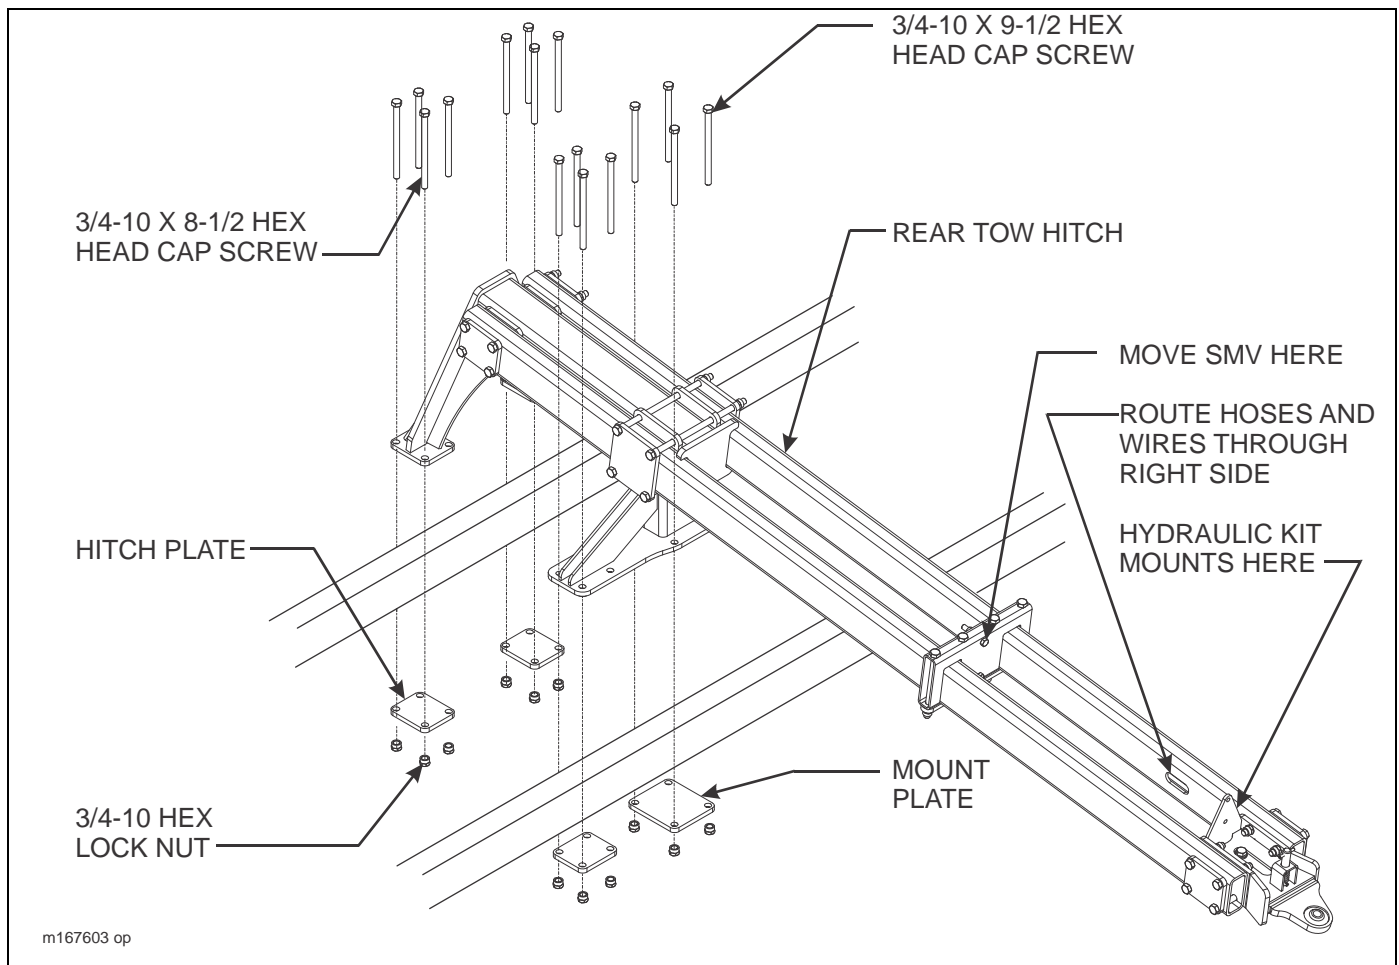

Figure 3-22: Rear Tow Hitch Installation
1. Attach rear tow hitch assembly to center frame using hitch plates, mount plate, 3/4-10 x 8-1/2 hex head cap screws, 3/4-10 x 9-1/2 hex head cap screws, and 3/4-10 hex lock nuts (**See Figure 3-22.**)